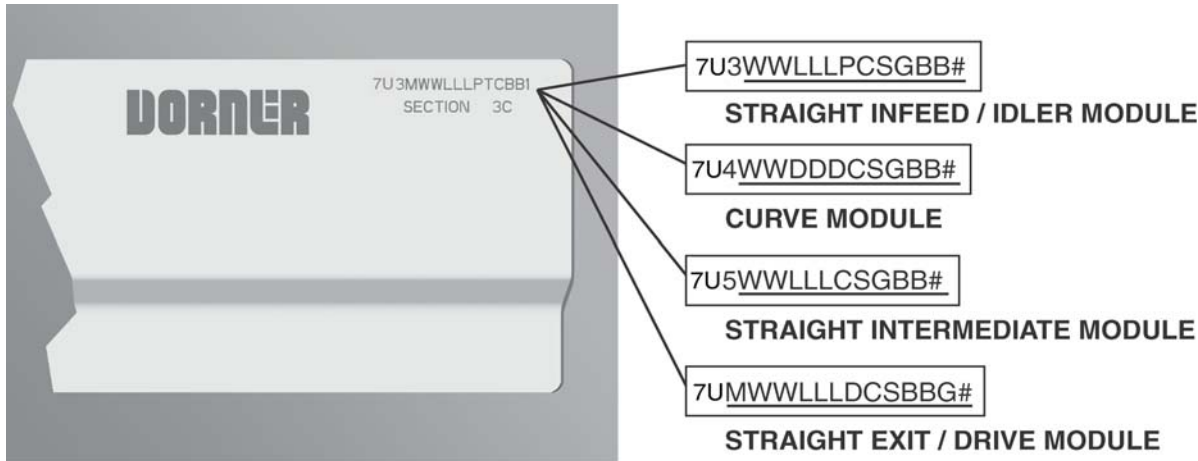

Figure 86
Refer to your serial and model number plate (Figure 86). From the model number, determine conveyor width (WW), length (LLL), pulley type (P), stand location, cleaning options (C), stand holes (S), guide profile (G), belt material (BB), degree of turn (DDD), drive/pulley type (D) and module serialized sequence (#).